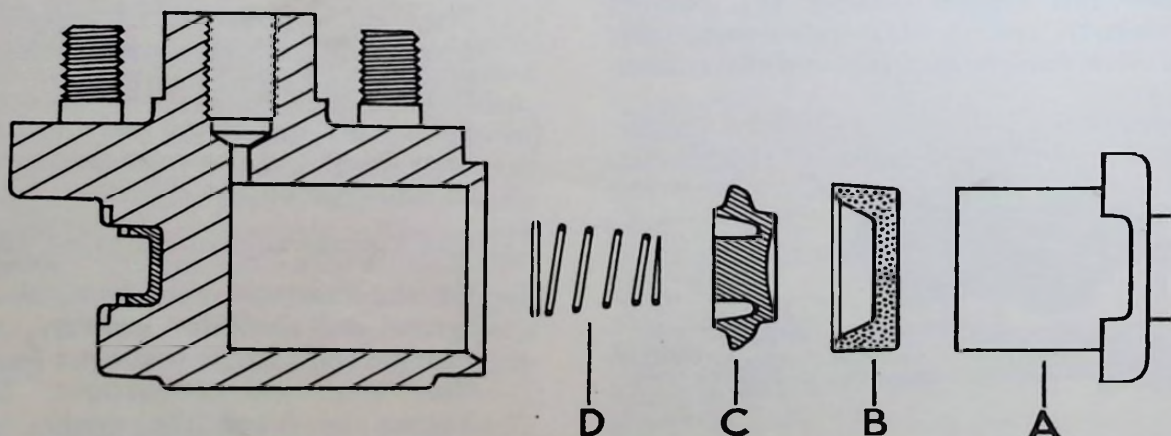

Fig. 5. Exploded View of Front Wheel Cylinder.
This type of wheel cylinder, an exploded view of which is shown in Fig. 5, has a blind bore to accommodate the piston (A), the rubber cup (B), the filler cup (C) and spring (D). The rubber cup mounting the cup filler is loaded upon the piston by a spring which is located in a recess formed in the cup filler.